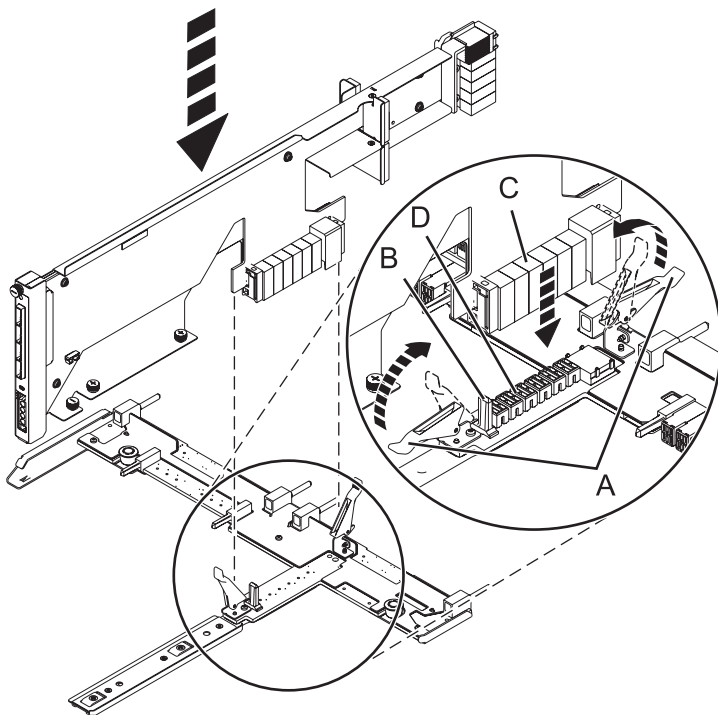

Figure 67. Installing the SAS conduit card into the midplane
- b. Lift the handle (**A**) to seat and secure the SAS conduit card to the midplane as shown in Figure 67.